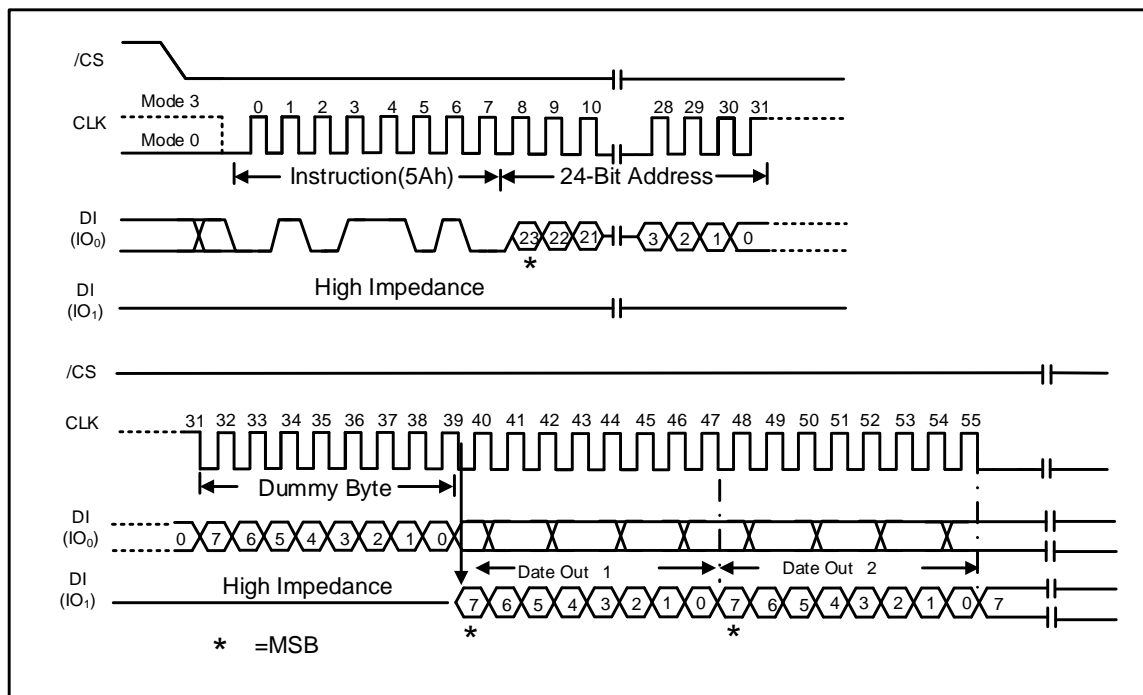

Figure 38. Read SFDP Register Instruction Sequence Diagram
The Read SFDP instruction is initiated by driving the /CS pin low and shifting the instruction code “5Ah” followed by a 24-bit address (A23-A0)(1) into the DI pin. Eight “dummy” clocks are also required before the SFDP register contents are shifted out on the falling edge of the 40th CLK with most significant bit (MSB) first as shown in Figure 38. The byte address is automatically incremented to the next byte address after each byte of data is shifted out. The last byte address of the register is FFh (the data will always be FFh when read after the last address), For SFDP register values and descriptions, please refer to please refer to the following SFDP Definition Table.